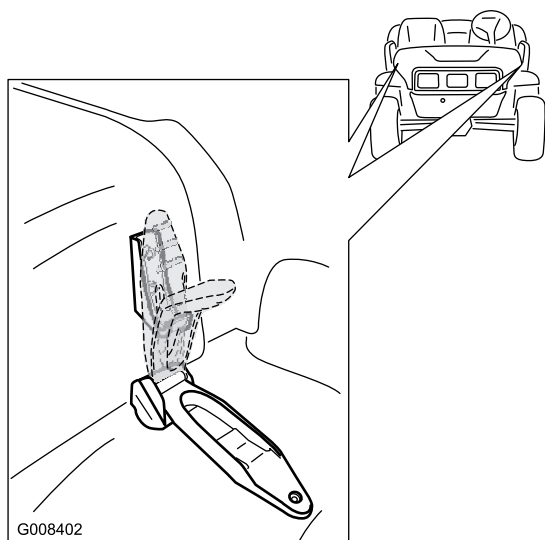

Figure 25
1. Release the rubber straps on both sides of the hood (Figure 25).